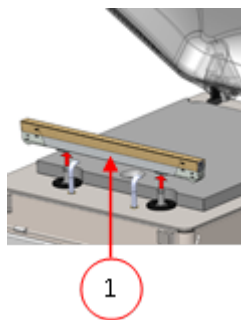

Figure 25: Removing the Sealing Bar (Plastic Lid)
On machines with a plastic lid, the sealing bars are mounted on cylinders (Figure 25: Removing the Sealing Bar (Plastic Lid) on page 73). On machines with a metal lid, the sealing bars are mounted in the lid (Figure 26: Removing the Sealing Bar (Metal Lid) on page 73).
1. Remove the sealing bar by lifting it from the cylinders. See Figure 25: Removing the Sealing Bar (Plastic Lid) on page 73.
Plastic lid	Lift the sealing bar from the cylinders. See Figure 25: Removing the Sealing Bar (Plastic Lid) on page 73.